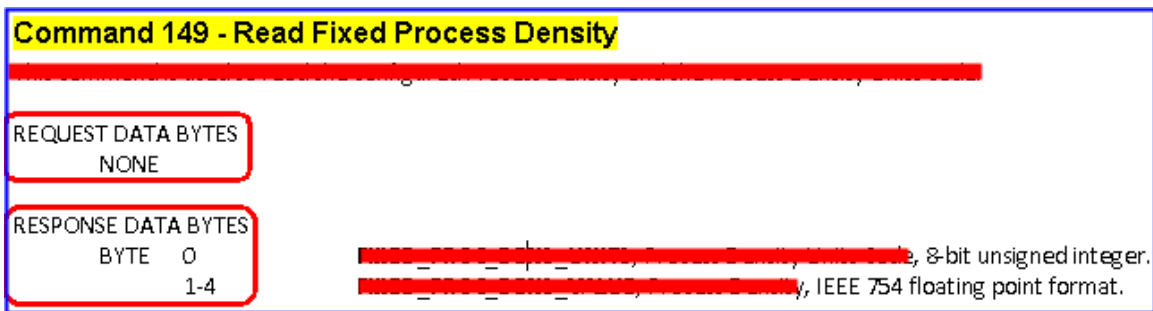

Figure 11-1 The HART command No.149 format of Emerson 8800D
1. Users must get the HART Device-Specific command first. The HART command No.149 format of Emerson 8800D is like Figure 11-1.